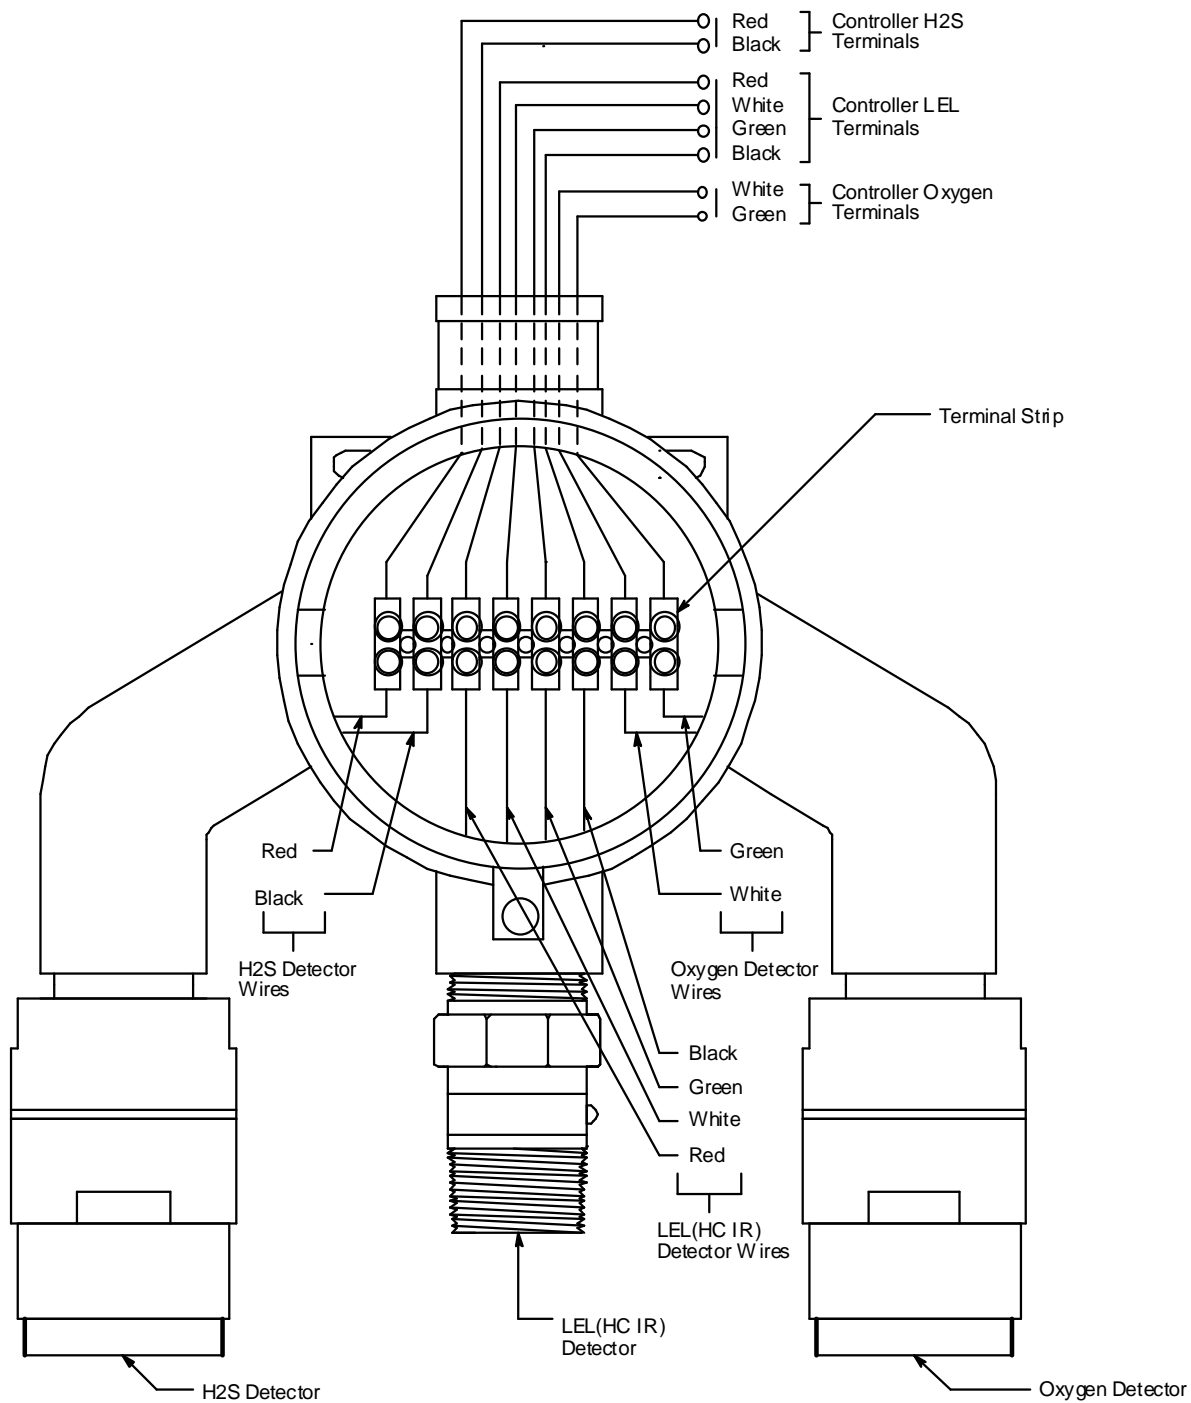
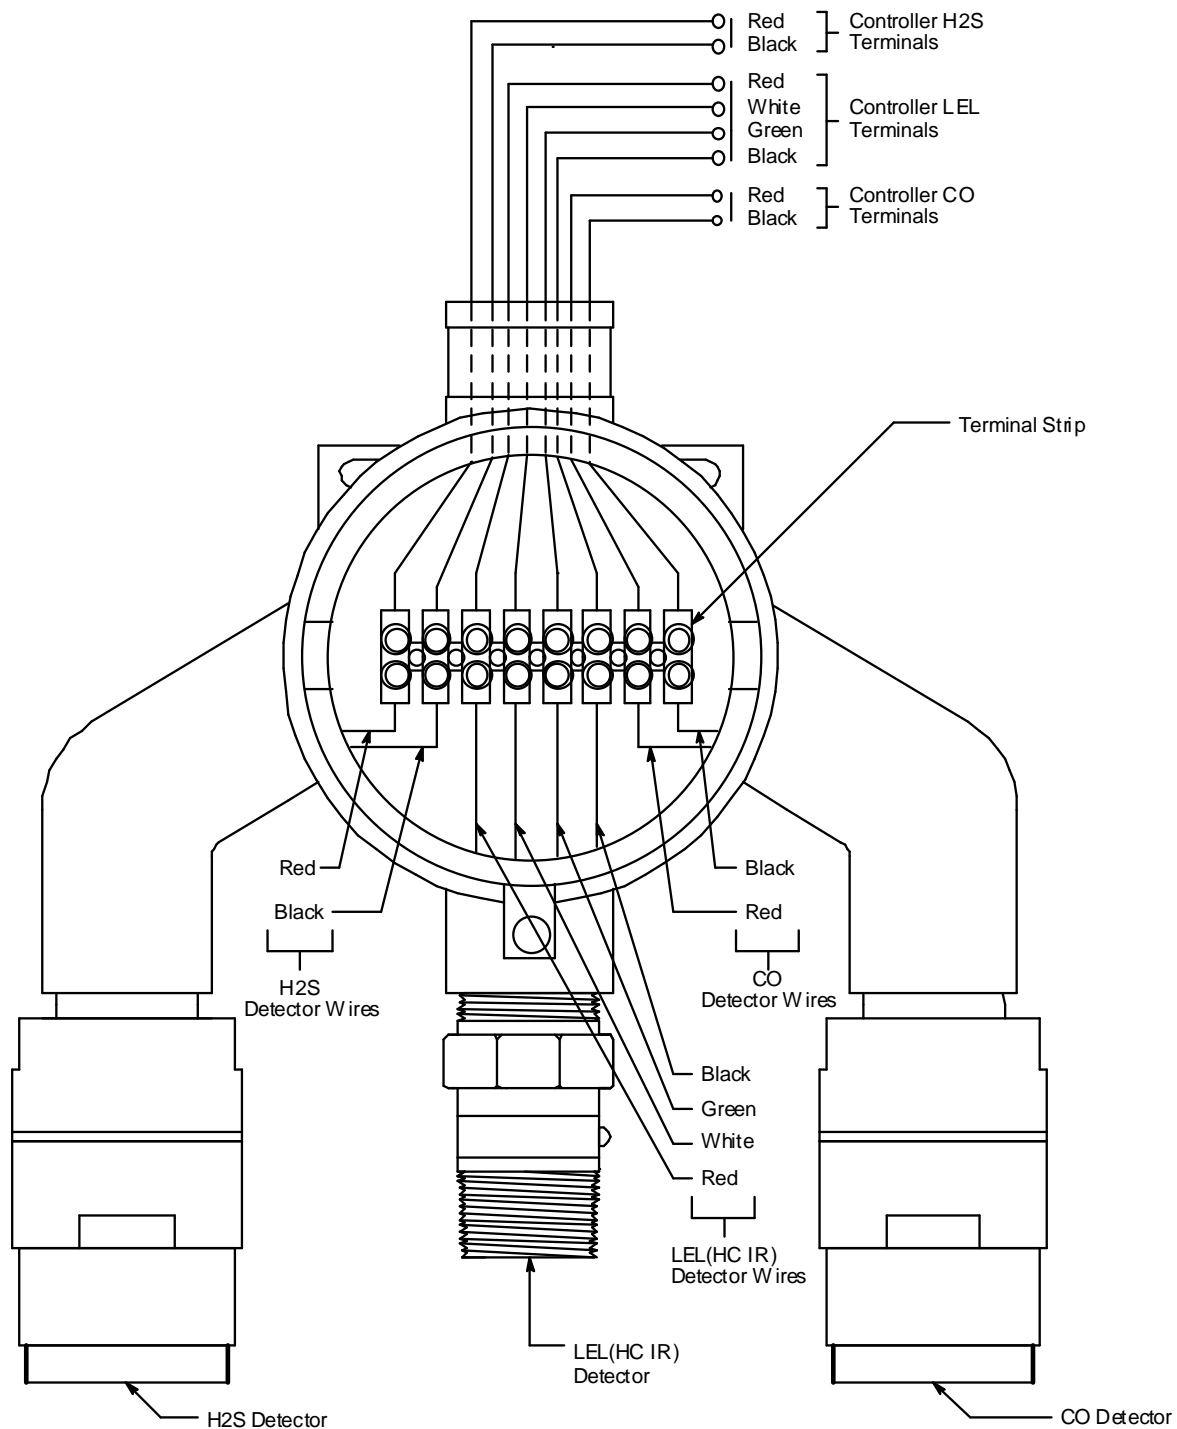

Figure 11: Wiring the 65-2483RK-01 to a Controller
Figure 16: Wiring the 65-2483RK-06 to a Controller
8. Connect the wires to the applicable controller terminal strips. See the controller operator's manual and the controller's detector head specification sheet. Also see Figure 11-Figure 16 for wiring diagrams for each detector model.
7. Connect the detector leads to the terminal block the same way the old detector was wired. See the controller operator's manual and the controller's detector head specification sheet for the IR LEL HC detector to verify the connections are correct. Also see Figure 11-Figure 16 for wiring diagrams.